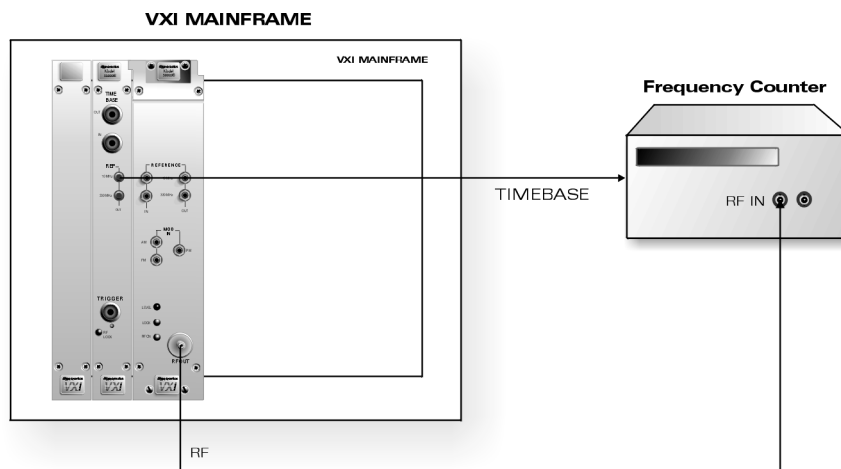

Figure 4-2: Frequency Range, Resolution & Accuracy
1. Connect the equipment as shown in Figure 4-2. Allow the equipment at least 30 minutes of warm-up. Since the Series 50000B and the counter use the same time base, time base errors are eliminated.